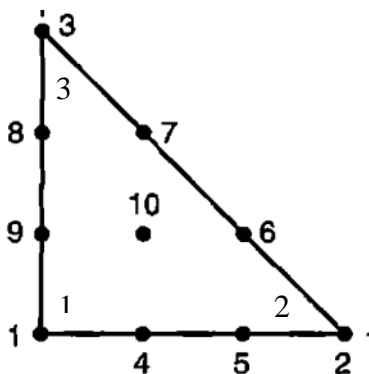

Figure Q2a
Q.2. (a) Determine the interpolation function ψ_9 in terms of area coordinates, L_i , for the triangular element shown in **Figure Q2a**.